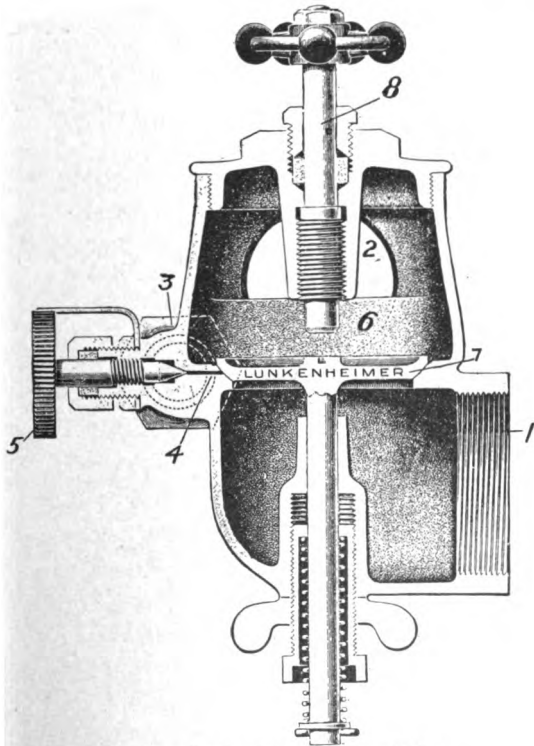

FIG. 27.—Lunkenheimer Mixing Valve.
*The Lunkenheimer Mixing Valve, Fig. 27.* Air entrance is effected at 1. Gasoline enters at 3 through the needle valve passage, 4. The amount of entering fuel is regulated by the needle valve which is operated by the graduated wheel 5. The mixture leaves for the engine at 2, after passing over the baffle 6 which aids the mixing. On each aspiration (admission) stroke valve 7 lifts, uncovering the needle valve